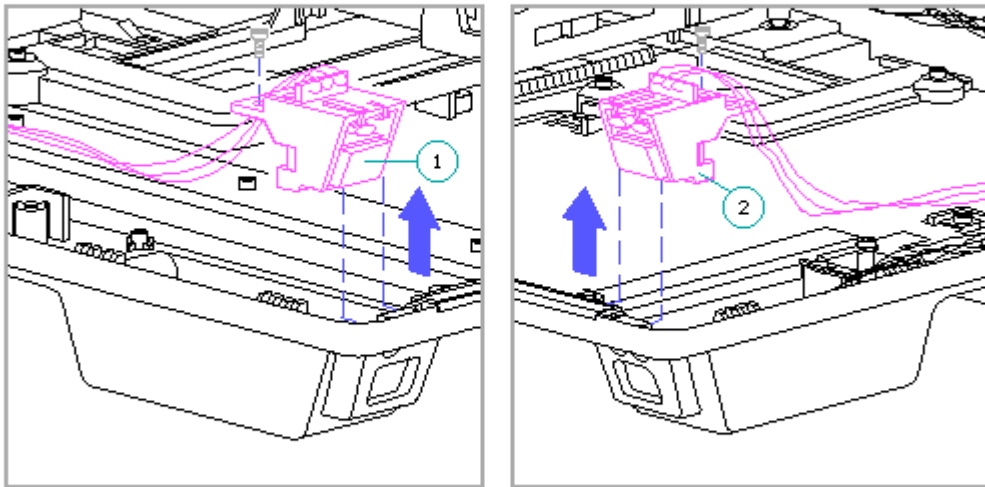

Figure 9-53. Removing the Eject Switch and the Power Switch
4. Remove the screws that attach the power switch and the eject switch to the top cover (Figure 9-53).
5. Remove the eject switch [1] and the power switch [2] from the top cover (Figure 9-53).